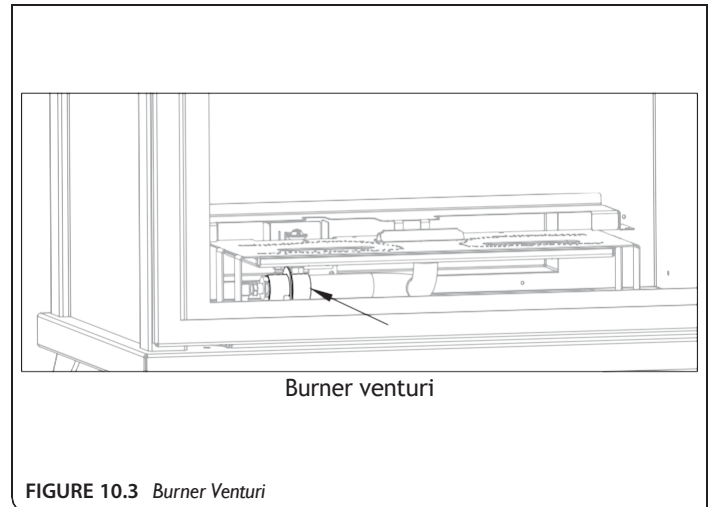
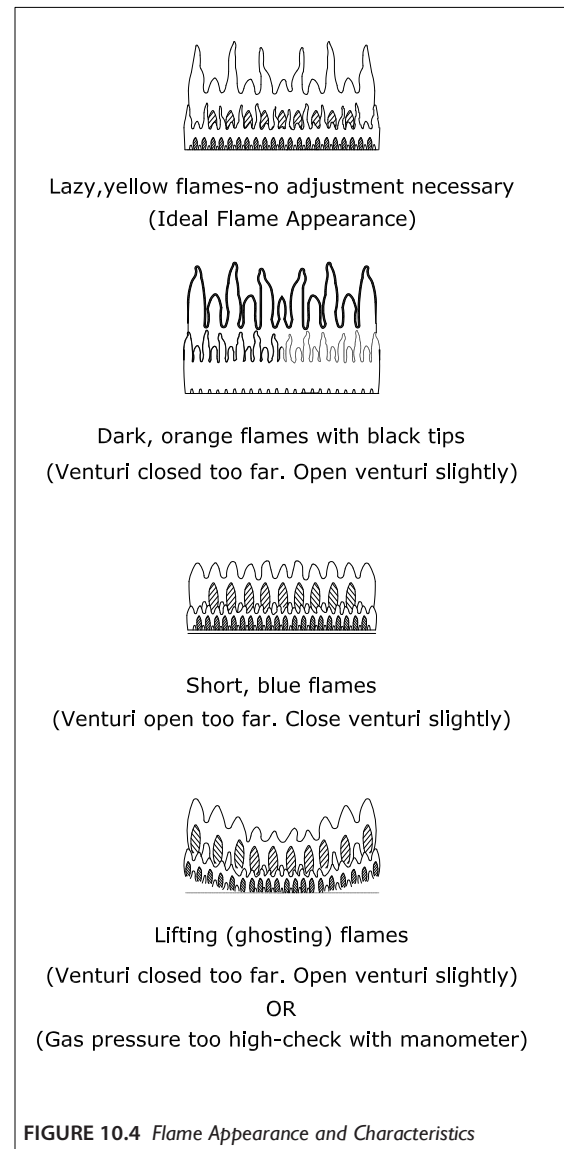

FIGURE 10.3 Burner Venturi
FIGURE 10.4 Flame Appearance and Characteristics
3. Loosen the wing nut securing the lever and adjust the burner venturi (FIGURE 10.3) as necessary. See flame adjustment guidelines in FIGURE 10.4. Re-tighten wing nut when finished.
2. Remove (3) screws at the firebox back wall securing the baffle. Remove baffle to access the 4" (102mm) exhaust pipe.
3. Remove the restrictor plate by pulling it down and out of the 4" (102mm) exhaust pipe. Make necessary modifications to achieve desired flame appearance. Refer to **TABLE 10.3** and **FIGURE 10.4** (page 35) for flame appearance adjustments.